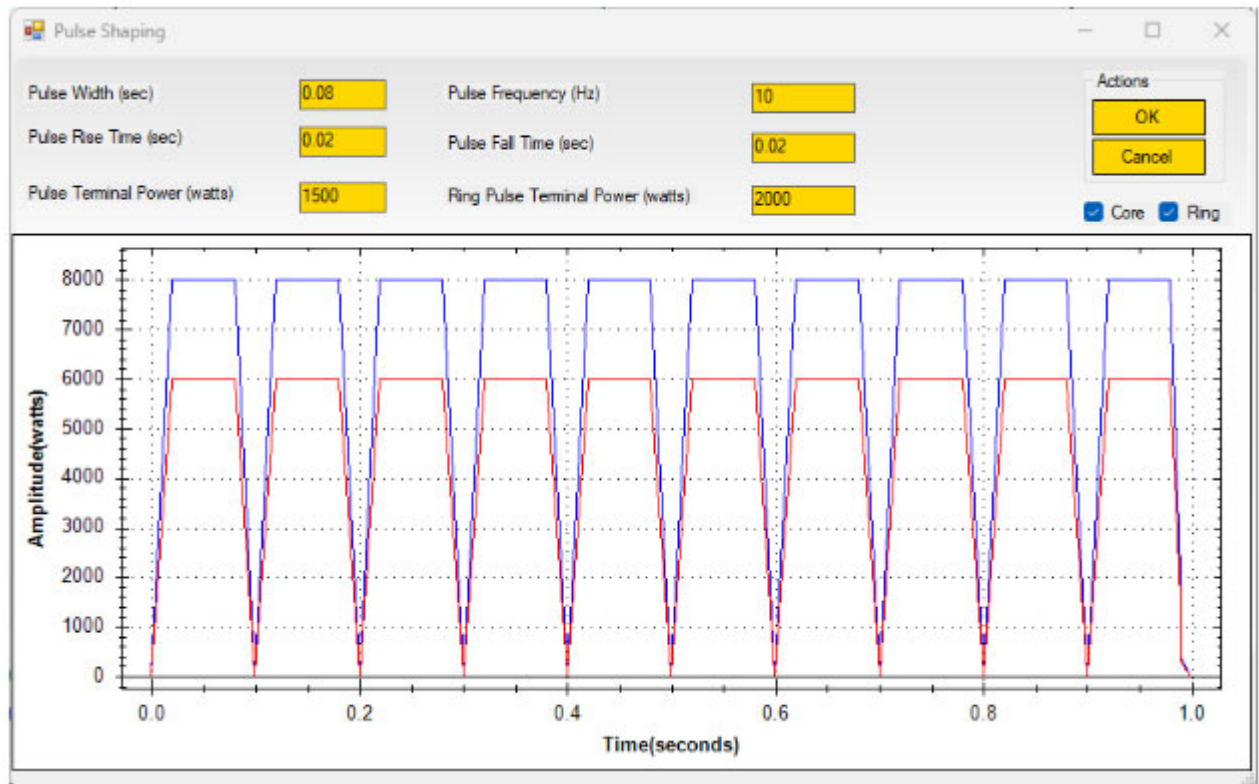

Figure 115: Pulse Shaping Visualization for AMB Application
- On the right side of the Processing Parameters screen, click on the icon with three dots, as seen in Figure 114. This displays the Pulse Shaping Visualization screen as shown in Figure 115 on page 130.